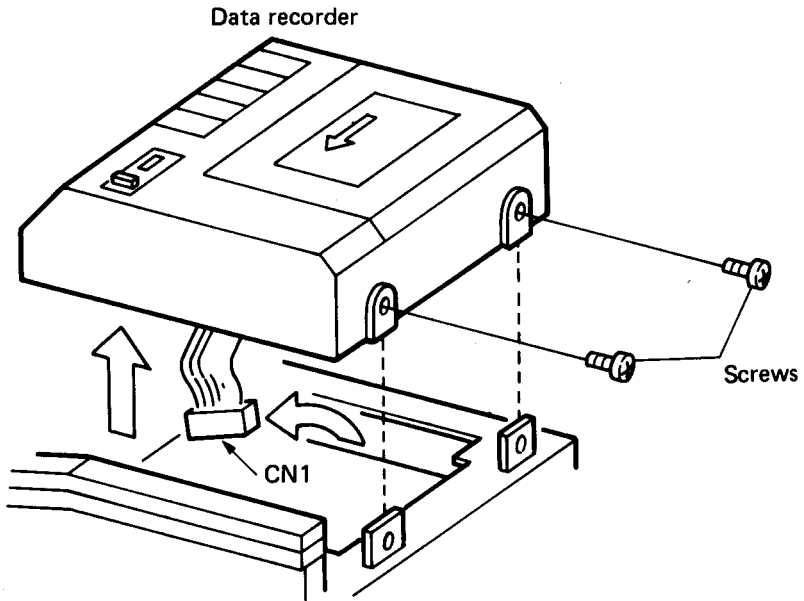

Figure 1
Remove the two screws holding the data recorder from the left rear side of the computer. Lift the data recorder out of its mounting. (Figure 1)
- 2) Remove the connector (CN1) between the data recorder and the MZ-700 series computer. (Figure 1)